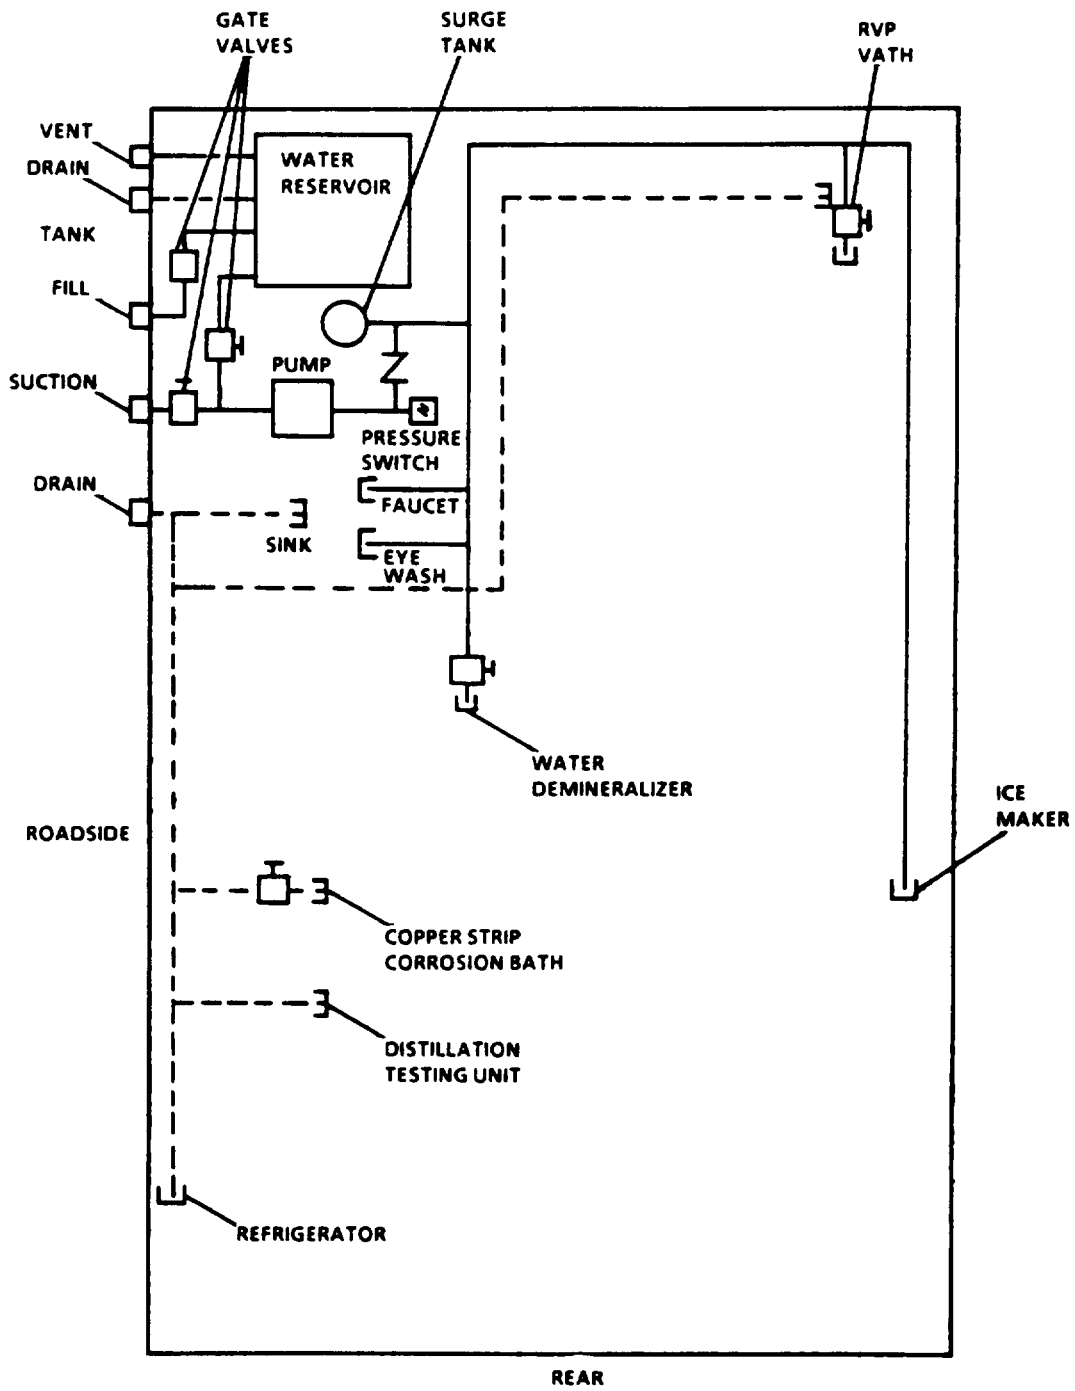
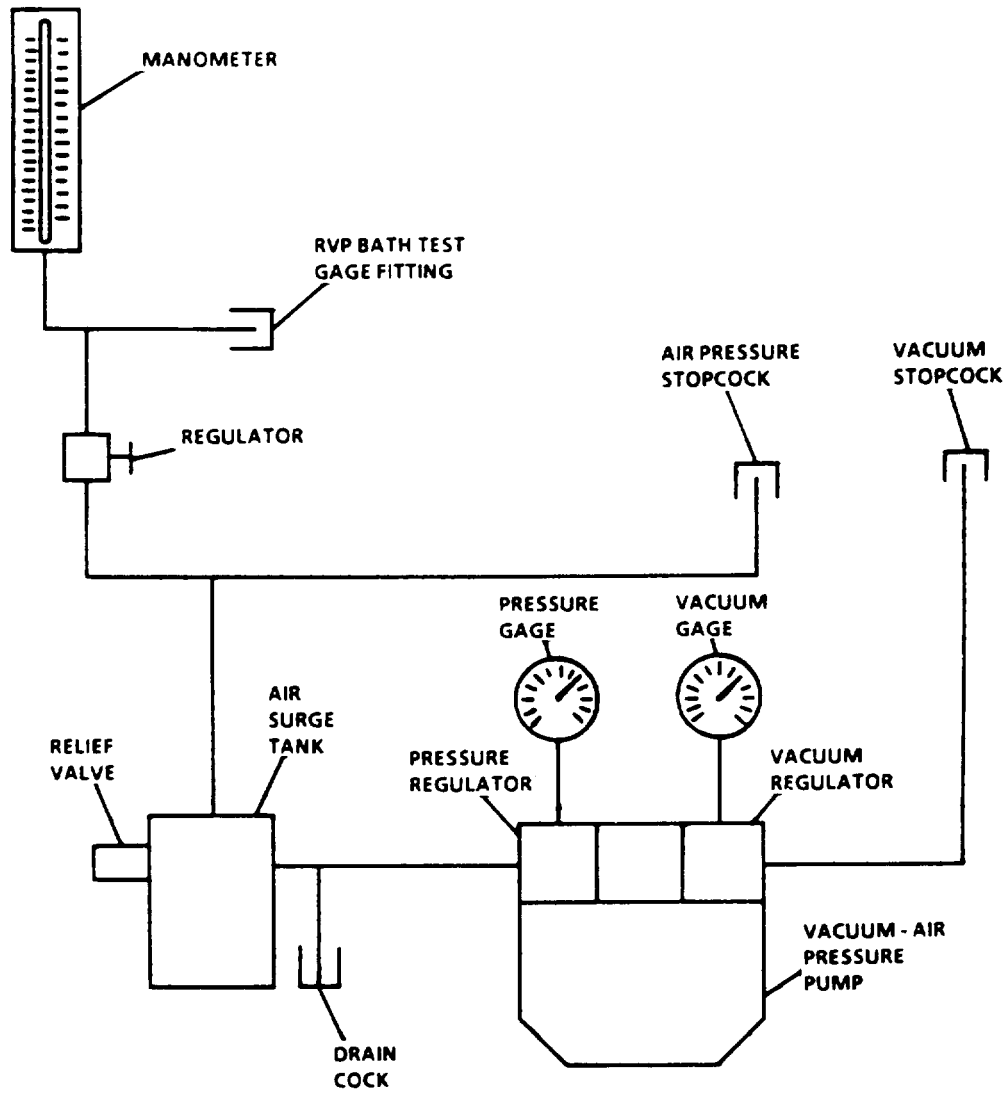

Figure 1-6. Water System Functional Diagram
Figure 1-7. Vacuum-Air Pressure system Functional Diagram
(5) Vacuum-Air Pressure System. The vacuum-air pressure system is powered by a 120 VAC vacuum-air pressure pump located in cabinet No. 9. The pump receives power from CB5, through VAC AIR switch (S4), located next to the sink.
b. Water System. (Refer to Figure 1-6). The water system supplies the laboratory with fresh water for use with laboratory tests. Water can be supplied from either one of two sources, From an external source connected to the SUCTION connection in the utilities box, or from the water reservoir (a 30 gallon tank) located under the counter top, front roadside corner. This water reservoir can be filled by using the FILL connection and gating valve with pressurized water, or the WATER RESERVOIR till pour spout (located front roadside corner exterior) by pouring water into fill spout, Two gating valves are used to line up the correct input to the water pump.
(1) Pressurized/Supply Lines. Pressure throughout the water system is maintained by a pressure switch and the water pump. (Refer to paragraph 1-13. a.(3).) The output of the water pump is passed through a check valve which maintains water on the output side of the water pump. From the check valve water is routed to the various units requiring water. The RVP bath and water demineralize have valves and fittings to connect tubing, The faucet, eyewash, and ice maker have no valves to isolate the water system from them. A surge tank is mounted in parallel with the supply lines to maintain even water pressure and flow. Air pressure is added to the surge tank prior to operation to maintain header pressure in the system,
(2) Drain Lines. Drain lines in the water system are supplied for the sink, RVP bath, distillation testing unit, refrigerator, and the copper strip corrosion bath (which has its own shutoff valve). These drains are referred to as the SINK DRAIN outlet in the utilities box. The water reservoir has its own drain in the utilities box labeled TANK DRAIN,
c. Vacuum-Air Pressure System. (Refer to Figure 1-7.) The vacuum-air pressure system provides vacuum and air pressures needed to perform various laboratory tests. The vacuum and air pressure are supplied by a 120 VAC vacuum-air pressure pump mounted in cabinet No. 9. (Refer to paragraph 1-13. a.(5).)